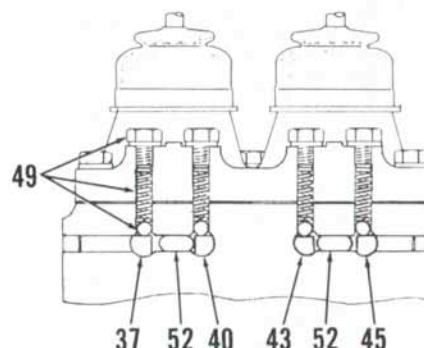

Fig. 207—Cross section of shift cover and transmission housing showing detent assemblies (49), interlock plungers (52) and shift rails (37, 40, 43 and 45).
Remove detent plugs, springs and balls (49—Fig. 207) from transmission shift cover. Remove the transmission shift cover and remove cover plate or shift cover from front of axle center housing. Support rear axle center housing at the front and rear to prevent tipping. Support transmission housing with
that retaining pin (8A) is positioned with notched side toward the front and the bearing (8) is seated against the notch. Install main gear shift rails and forks, rear mainshaft (12) assembly and range gear shift rails and forks. Be sure that interlock pins (52—Fig. 207) are properly positioned between shift rails and that notches in shift rails face the pins. Only one shift rail may be engaged at a time in main transmission and range gear compartments.